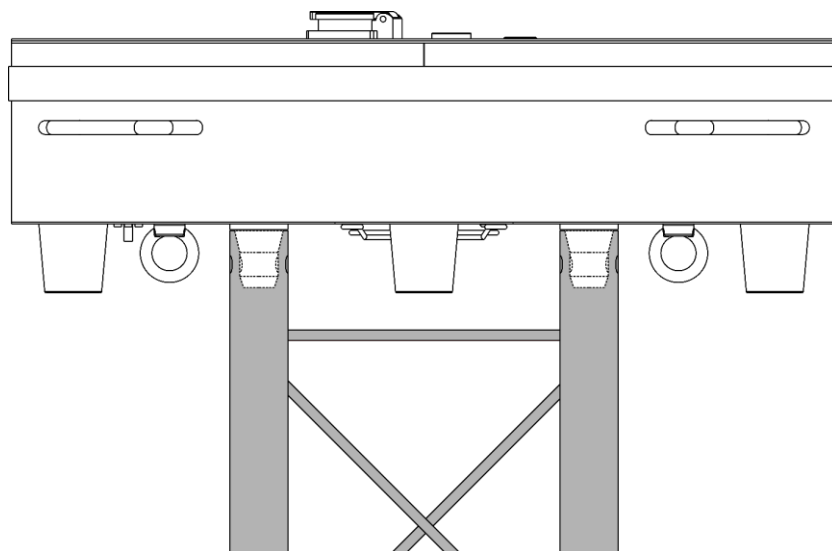

Fig. 11
- 04) Put the device on the truss, so that the half connectors (A) fit in the tubes of the truss, as shown in Fig. 11.